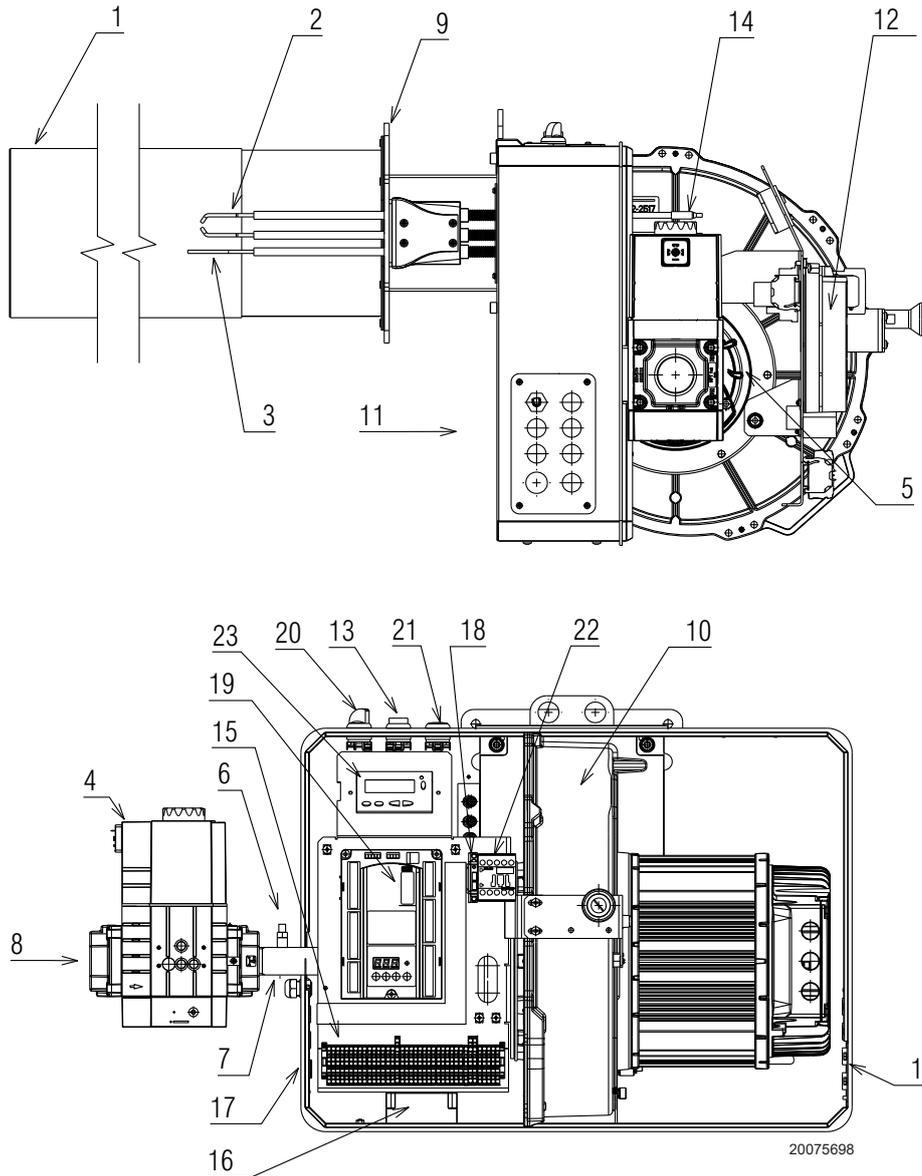

Fig. 2
(1) Reference conditions: Ambient temperature 20°C - Gas temperature 15°C - Barometric pressure 1013 mbar - Altitude 0 m a.s.l.
(2) Input gas pressure 8)(Fig. 2) with zero pressure in combustion chamber and at maximum burner output.
(3) Sound pressure measured in manufacturer's combustion lab, with burner operating on test boiler, at maximum, average and minimum modulation output. The sound power is measured with the "Free Field" method, as per EN 15036, and according to an accurate "Accuracy: Category 3" measurement, as described in EN ISO 3746.
if the button 13 lights up (Fig. 2) it signals that the burner is in lockout.